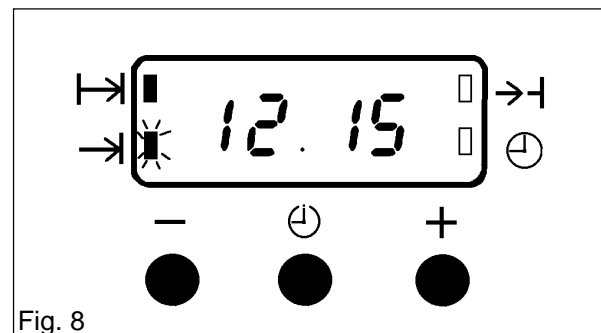

Fig. 8
- v) To set the 'End Time'. Press the Selector Control button until the 'End Time' (→|) flashes. Press the increase control (+) until the required stop time is displayed, e.g. 12.15 p.m. as Fig. 8. If necessary depress the decrease control (-) until the correct time interval is achieved.